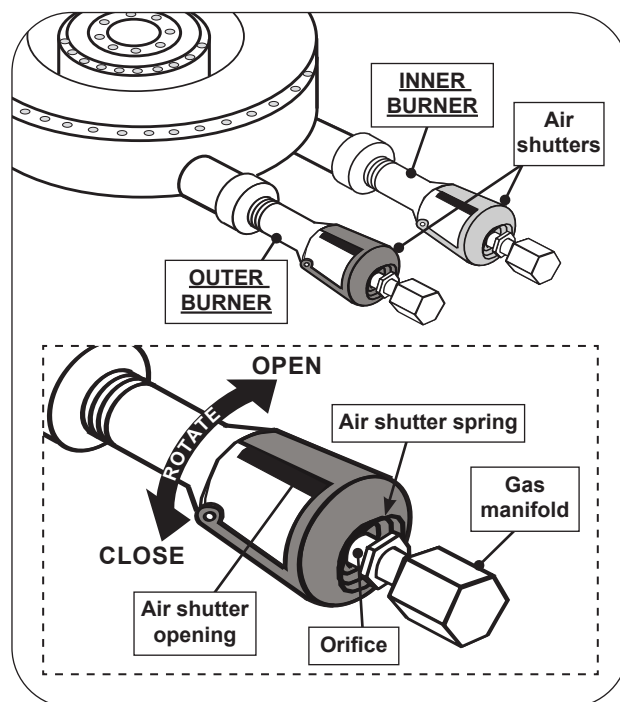

Fig. 50-1 Power burner air shutter adjustment detail
1. To adjust the air shutters, rotate the shutters to open or close them. See Fig. 50-1 for details.